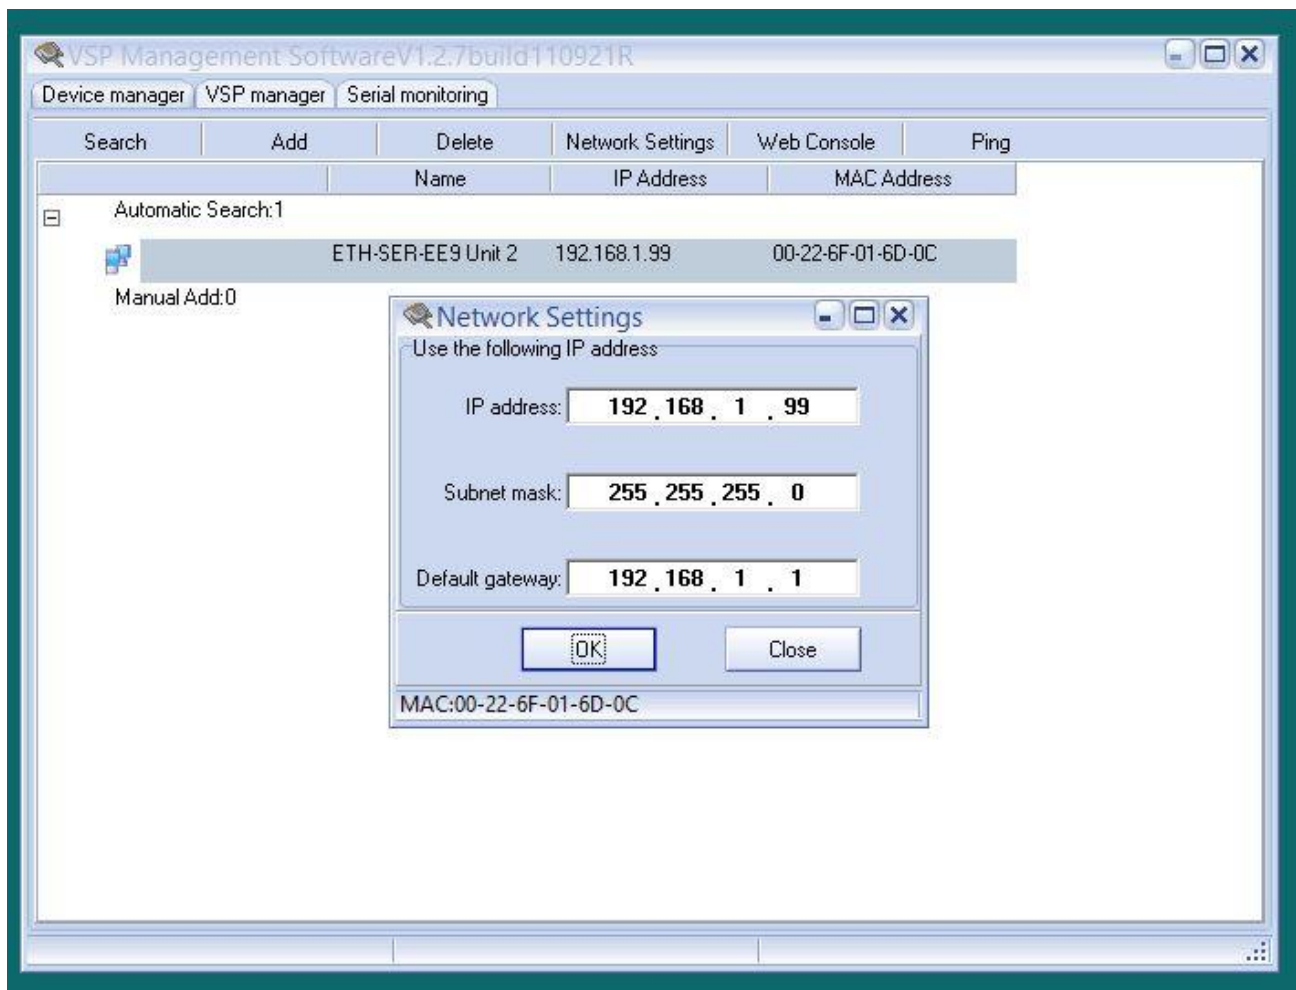

FIGURE 4.46 – ALTERING THE NETWORK SETTINGS
- 5) Highlight the search results and select Network Settings. Now you must put in the correct IP information. Our IP will be 192.168.1.99 - 192.168.1 for the matched network and 99 for the unique ID. Enter the subnet mask. Our subnet mask is 255.255.255.0 (the three 255s masks the network id and 0 masks the unique ID). The Default Gateway is 192.168.1.1. Your information will be different. (SEE FIGURE 4.46).